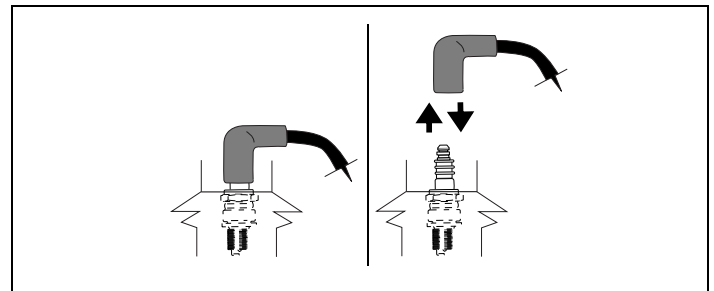

Figure 35. Disconnecting/Connecting Spark Plug
13. Carefully disconnect spark plug wire from grounding post, if provided. See Figures 35 and 36. See "G. Avoid Accidental Starts" instructions on page 2. Afterward, continue reading instructions below.